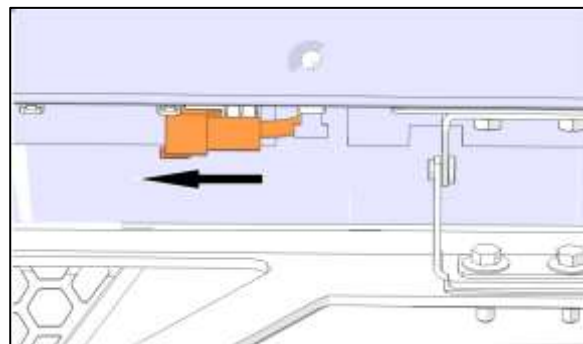

Figure 5: Removing Pin Housing Connector
- Under the connector, depress the clip-on mounting locking tab with a small screwdriver. (Figure 5)